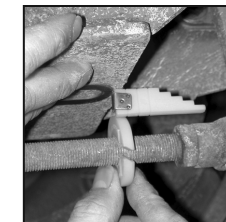

Fig. 6
Step 5. Align the rear of the gauge with the indicator to establish the released position. Once established, use the "MIG" welder to "tack" gauge bracket to axle tube. (**Fig. 6**)